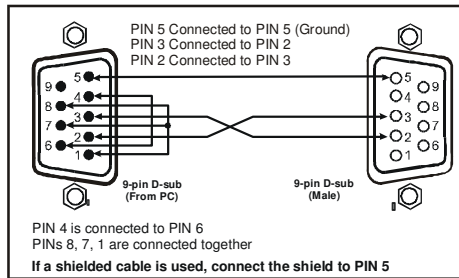

Figure 3: Connecting a PC without using a Null-modem Adapter
- Connect the RS-232 9-pin D-sub port on your PC to the RS-232 9-pin D-sub rear panel port on the **VP-437xl**, as Figure 3 illustrates